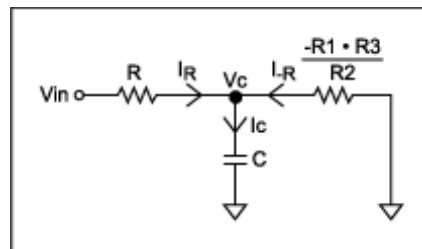

Figure 3. This circuit results from a further simplification of Figure 2b.
After simplification, the circuit (Figure 3) reveals a "T" configuration, in which V_{in} drives the capacitor through a positive resistor (R), and ground drives the capacitor through a negative resistor ($-R1 \cdot R3/R2$).